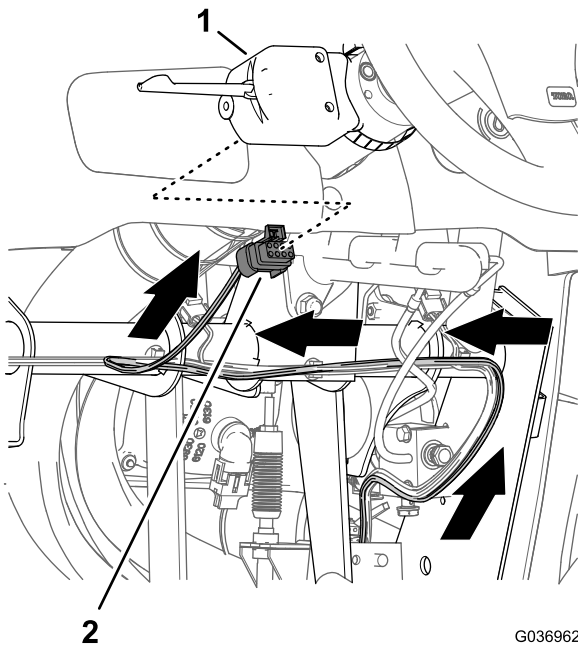

Figure 29
3. Connect the leg of the wire harness with the 8-socket connector to the 8-pin connector of the turn-signal switch (Figure 29).